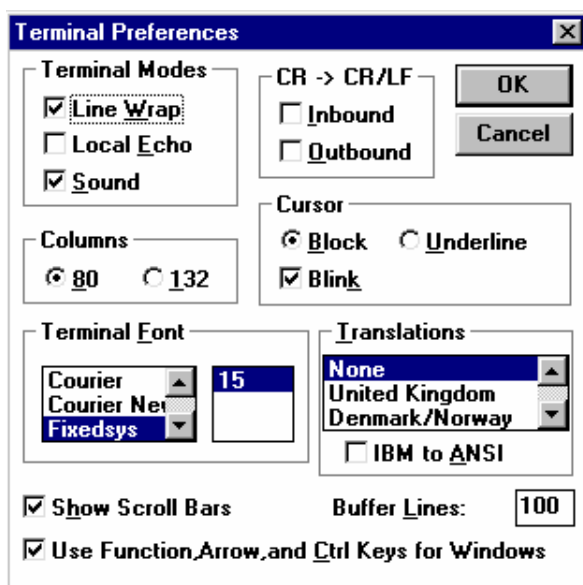

Fig 2 Terminal Preferences Dialog Box
- The **Terminal Preferences** dialog box is displayed as shown in Fig 2.